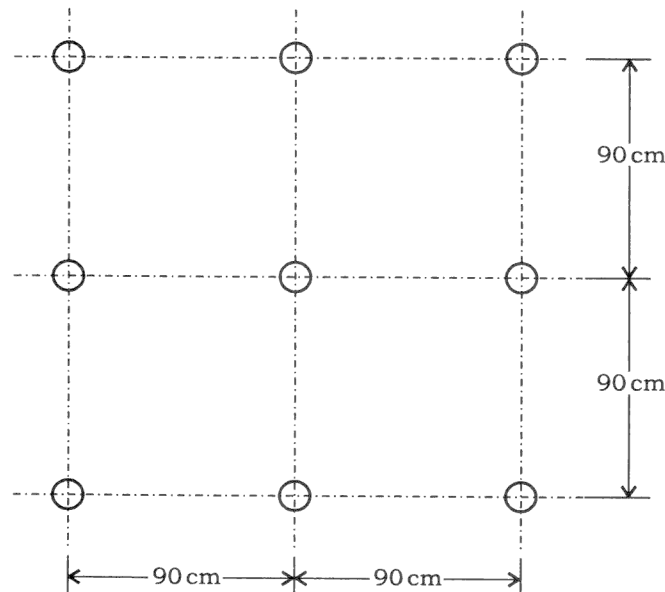

Fig. 6(a)
6. (a) The plan of a group of 9 piles driven into a soft clay is shown in Fig. 6(a) below. The diameter and the length of piles are 30 cm and 12 m respectively. The unconfined compressive strength of the clay is 80 kN/m^2 . Calculate the allowable load on the pile group on the basis of shear failure criterion for a factor of safety 3.0 . Assume $\alpha = 1$, $N_c = 9$: